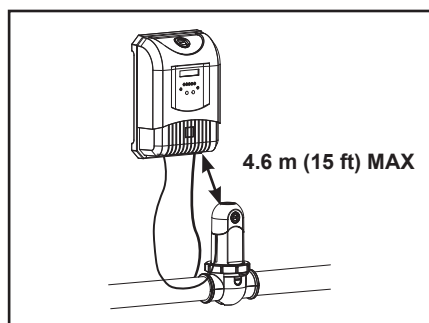

Figure 4. Installation Requirements
2. Screw the power pack bracket into position on a wall surface where it will mount securely, while ensuring it is no more than 4.6 m (15 ft.) from the cell (see Figure 4 and 5).